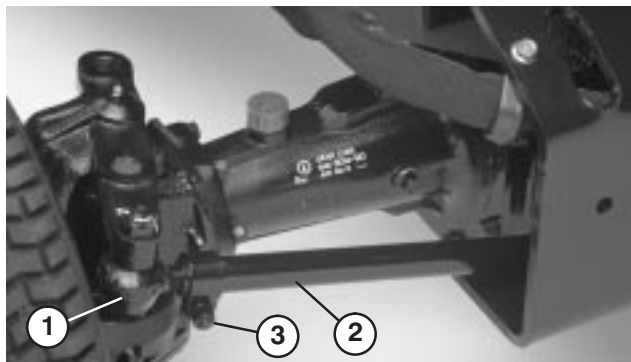

Figure 62
2. Remove cotter pin and nut securing one tie rod ball joint to mounting bracket on axle and disconnect ball joint from axle (Fig. 62).
3. Loosen screw on tie rod clamp (Fig. 62). Rotate ball joint in or out to adjust length of tie rod.